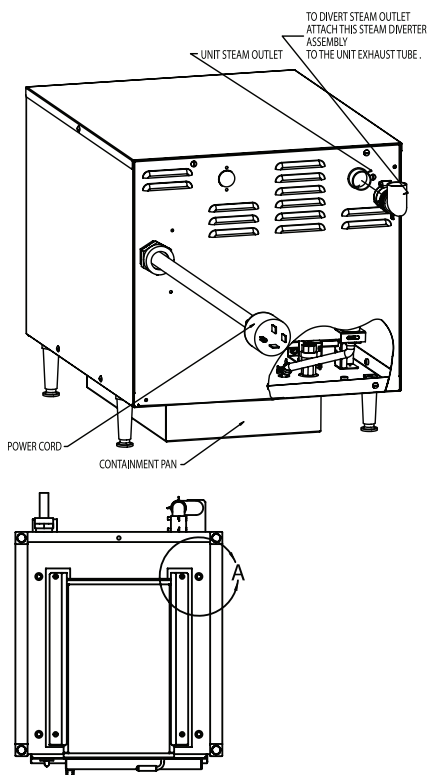

FIGURE 1
Remove drain containment pan from the bottom of unit(s). Unscrew to remove adjustable legs from base of unit(s). Unfasten nuts and bolts on stand platform(s). Place unit(s) on stand platform. Align the (4) leg holes with the holes in the platform. Secure unit(s) to stand platform(s) using bolts and washers provided in step 2 as shown in detail "A" in figure 1 below.
For double stacked units only: By loosening the left screw and removing the right screw provided, mount steam exhaust bracket assembly to the back panel of the top unit as shown in detail "B" of figure 1. Attach the steam exhaust hose from the bottom unit's steam outlet tube to the top unit's steam exhaust bracket assembly using hose clamps provided as shown in figure 2. (Note: steam exhaust hose may need to be cut to fit.)